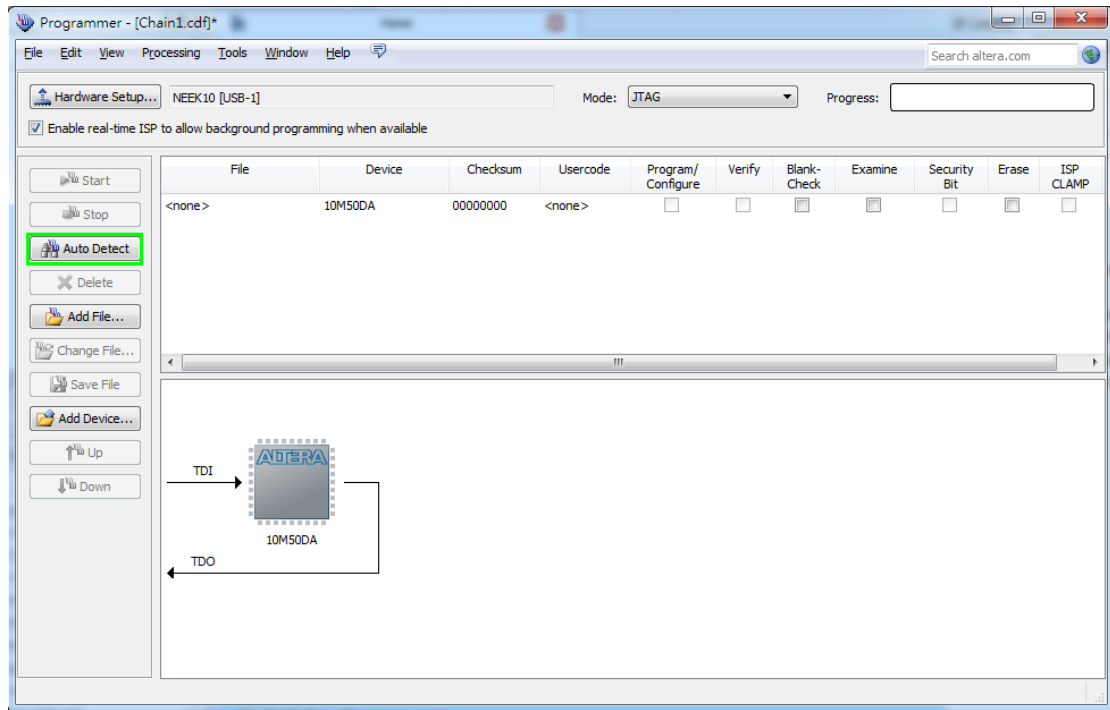

Figure 3-2 Detect FPGA Device in JTAG Mode
1. Open the Quartus II programmer and click **Auto Detect**, as circled in **Figure 3-2**.